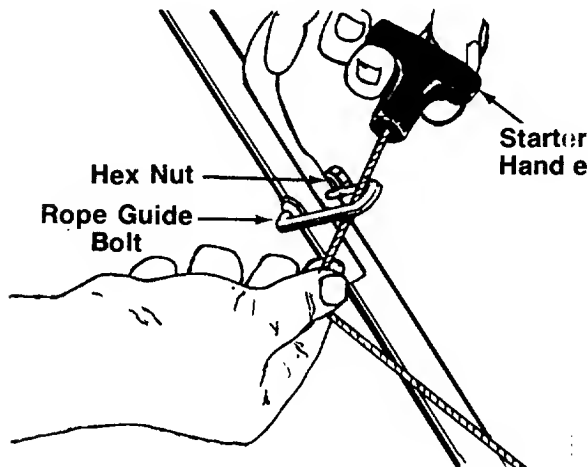

FIGURE 7.
3. Slip the starter rope into the rope guide bolt as shown in figure 7.